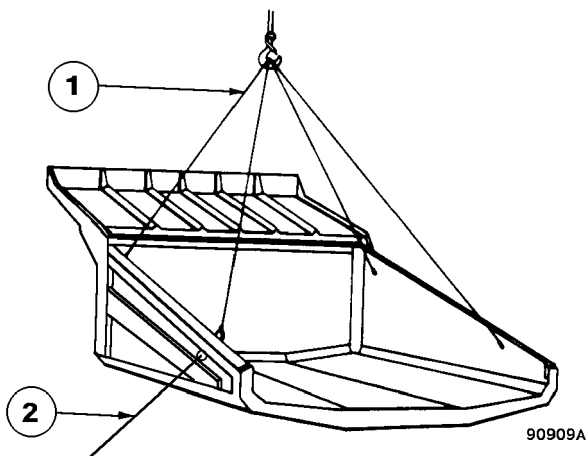

FIGURE 3-1. DUMP BODY REMOVAL
1. Park truck on a hard, level surface and block all the wheels. Connect cables and lifting device to the dump body and take up the slack as shown in Figure 3-1.